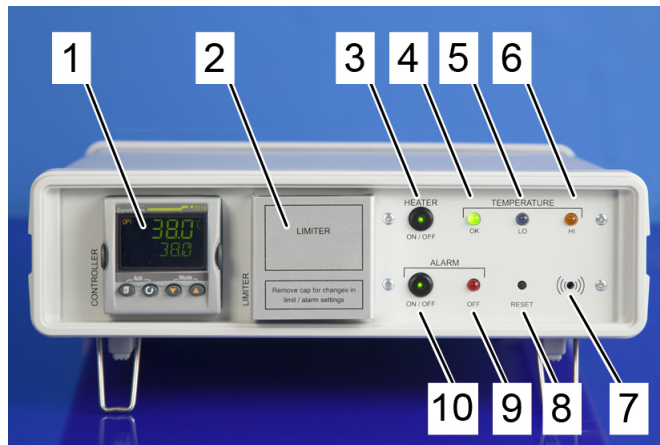

Figure 4.1: Front panel of the MRI Temperature Control Unit with Limiter unit covered
<p>a1</p>	<p>Switch ON the main power at the rear panel. The heater and the alarm are automatically active (and if the temperature is too low an acoustic alarm is given).</p> <p>Indicators on the front panel have the following status: steady BLUE LED (Figure 4.1: (5)) & acoustic alarm signal: temperature low</p> <p>This is given by the fact that the Coil housing is at room temperature (< default parameter 38°C).</p> <p>Remark: A brief self test of the Eurotherm controller (and covered limiter) will follow in which all elements of the display light up and the firmware version number is shown.</p> <p>The Eurotherm controller and limiter are configured with the default parameters shown in Table 4.5 on page 18 & Table 4.6 on page 19 respectively.</p>
The controller can be reset by pressing the reset push button on the front panel (Figure 4.1: \(8\)) with a ball pen.
c1	<p>Press Reset push button on the front panel (Figure 4.1: (8)) with a ball pen to reset the controller.</p> <p>One of the following indicators on the front panel for temperature will light up:</p> <p>GREEN LED (Figure 4.1: (4)) for temperature ok</p> <p>BLUE LED (Figure 4.1: (5)) for temperature low</p> <p>ORANGE LED (Figure 4.1: (6)) for temperature high</p> <p>Heater ON</p> <p>Alarm ON</p>